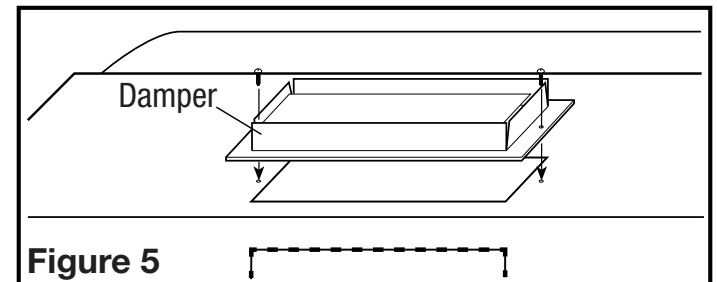

Figure 5
6. For 3-1/4" x 10" vertical or horizontal ducting, install the damper assembly to the hood by placing the damper assembly over the opening and securing with the two provided screws. Using approved duct tape, tape around the collar to seal off any air leaks (**Figure 5**).